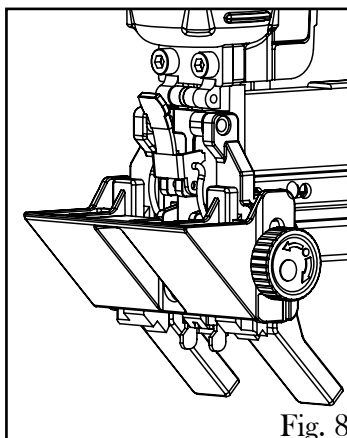

Fig. 8
4. Slide the flooring component off (Fig. 8).